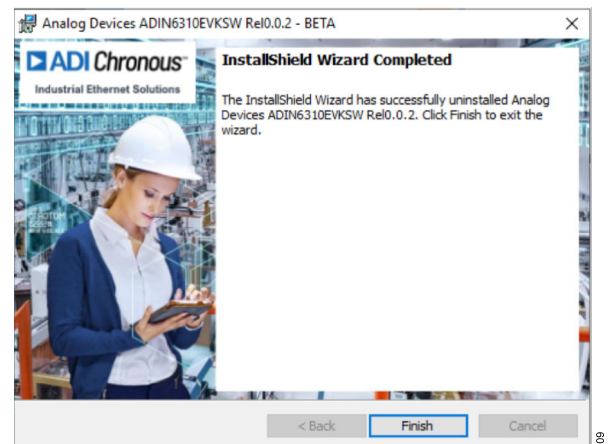

Figure 9. Remove or Repair Completes
2. Follow the steps until complete, click **Finish** (see Figure 9).